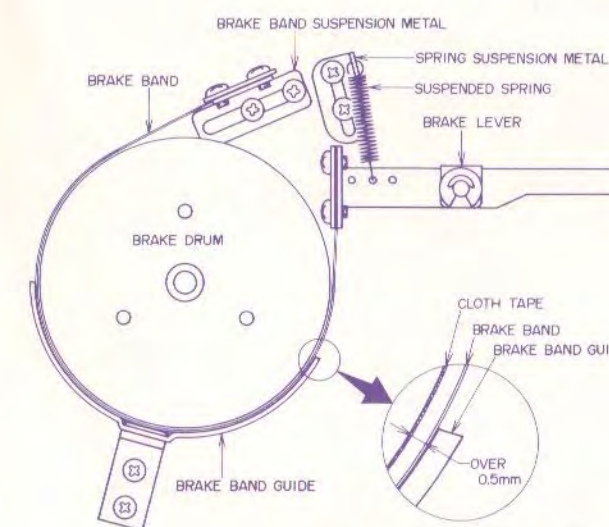

Fig. 2
3. BRAKE TENSION ADJUSTMENT (Refer to Figs. 2, 3)